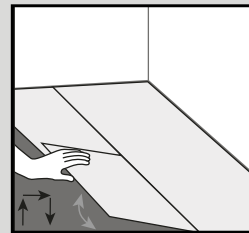
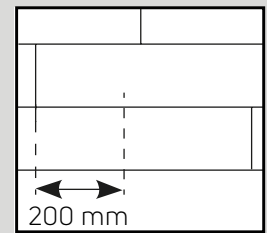
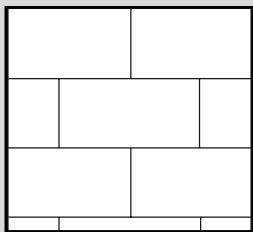

Fig. 3
Fig. 4a
Fig. 4b
4. Start the second row by clicking the tongue into the groove holding the plank at an angle (approximately 30°), then tap the plank/tile firmly into the groove of the first row. Install the next plank/tile by easing the tongue and groove together on the long side (Fig. 3). Tiles and planks should be installed 'off-set' such that four corners never meet (Fig. 4a and Fig. 4b).